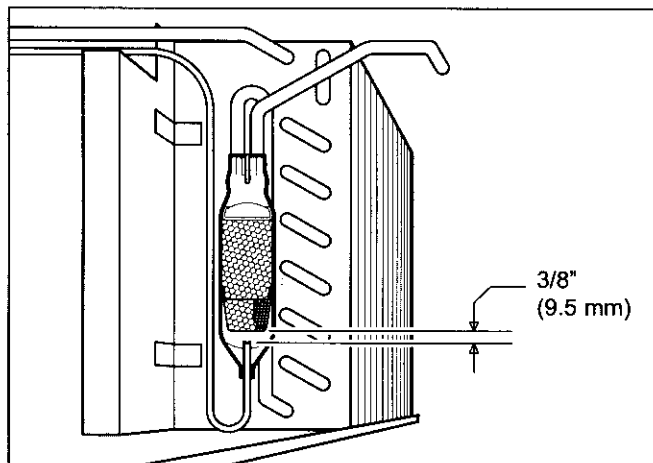

Figure 7-130. Filter-Drier Cut-Away View
**NOTE:** When installing replacement filter-drier, insert capillary tube until it touches screen inside drier, then pull capillary tube away from screen approximately 3/8" (9.5 mm) before brazing (See Figure 7-130).